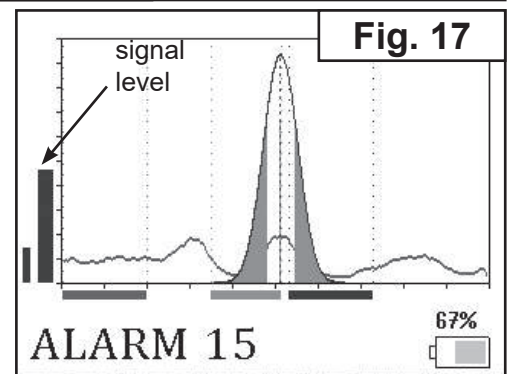

Fig. 17
5. If the Detector operates properly the Alarm sound will be present and the LCD will indicate the word «ALARM» (Fig. 17).